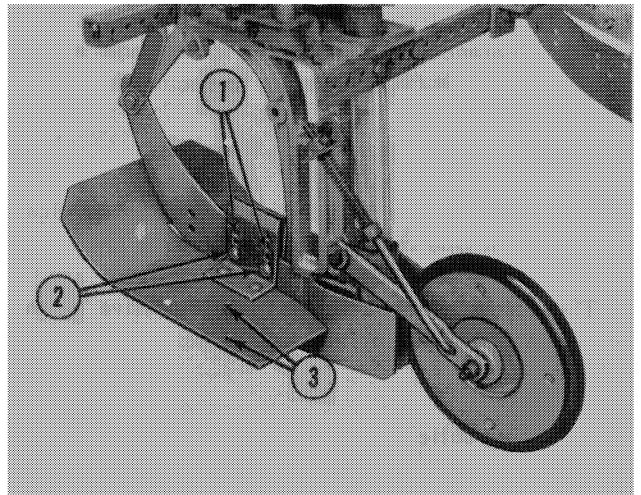

Figure 34
Attaching: Fasten the gauge shoe to the opener runner with the two 3/8" x 1-1/2" carriage bolts shown at (2), Figure 34. The gauge shoe can be adjusted up or down by repositioning the bolts in the different mounting holes indicated at (1).
Attaching: Attach the sweeps to the gauge shoes in the holes shown at (3), Figure 34. Use two 3/8" x 1" flat head screws, lock washers, and nuts to attach a sweep on each side of the opener.